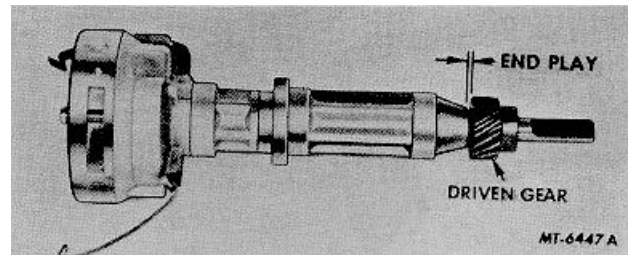

Fig. 25 Checking Distributor Shaft End Play (Housing-to-Drive Gear Clearance) (Typical)
13. Measure and record distributor shaft end play (Figs. 25 and 26). Improper end play could result in failure or improper engine timing. If end play exceeds specified limits, replace distributor shaft and gear. On distributors having gear-to-housing thrust washer, measure end play between gear and thrust washer. If end play is excessive, replace thrust washer.